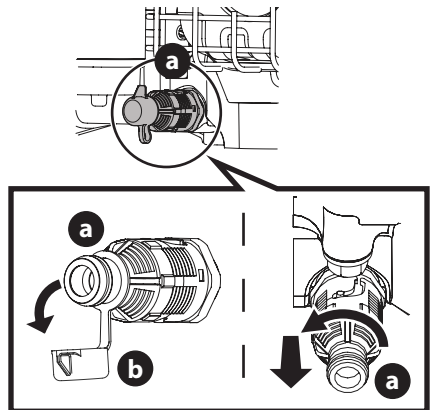

Figure 9
1. Locate the oil drain valve (a) and place a suitable container below the plug (Figure 9).
2. Remove the drain cap (b) (Figure 9).